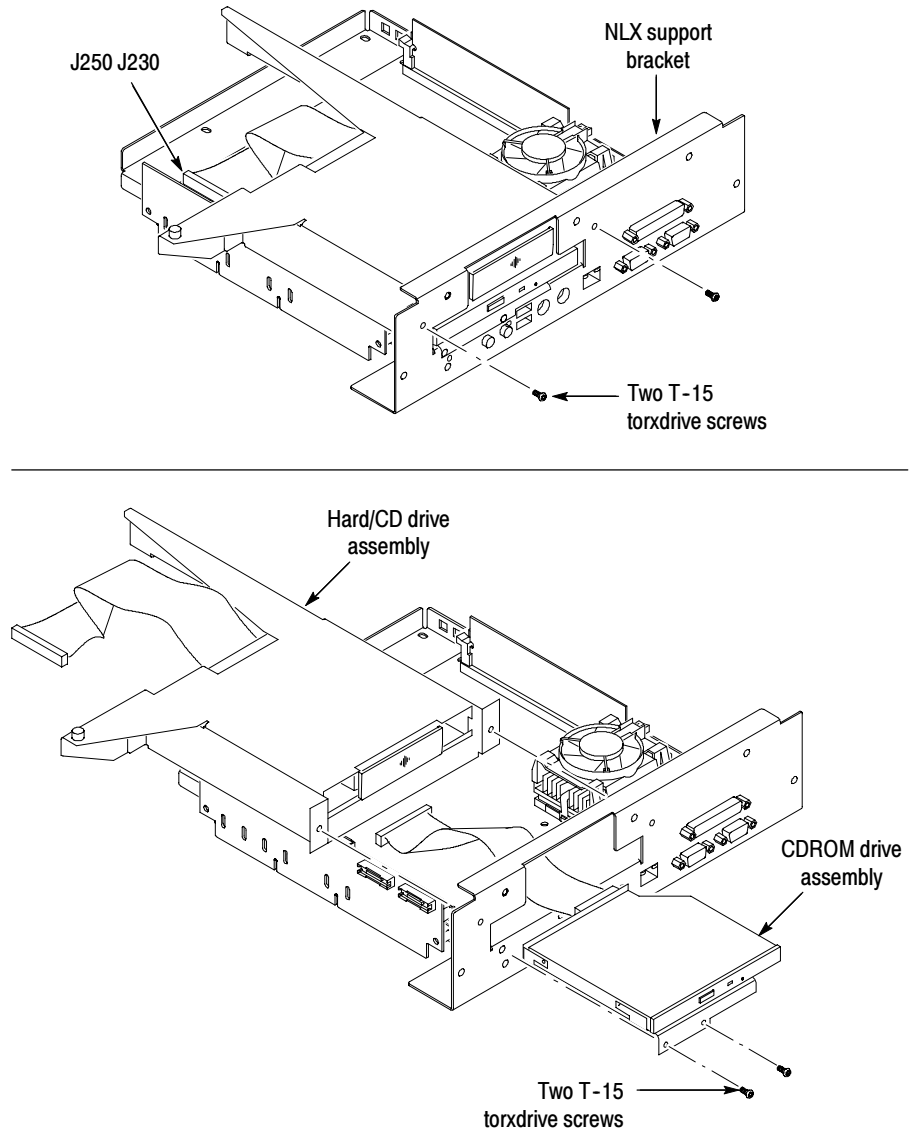

Figure 7: Riser Adapter & NLX board and CDROM drive assembly removal
5. *Remove the Hard/CD Drive assembly:* See Figure 7, page 18.
3. *Install the Hard/CD drive bracket:* See Figure 7, page 18.
- 5.** *Install CDROM drive assembly:* See Figure 7, page 18.